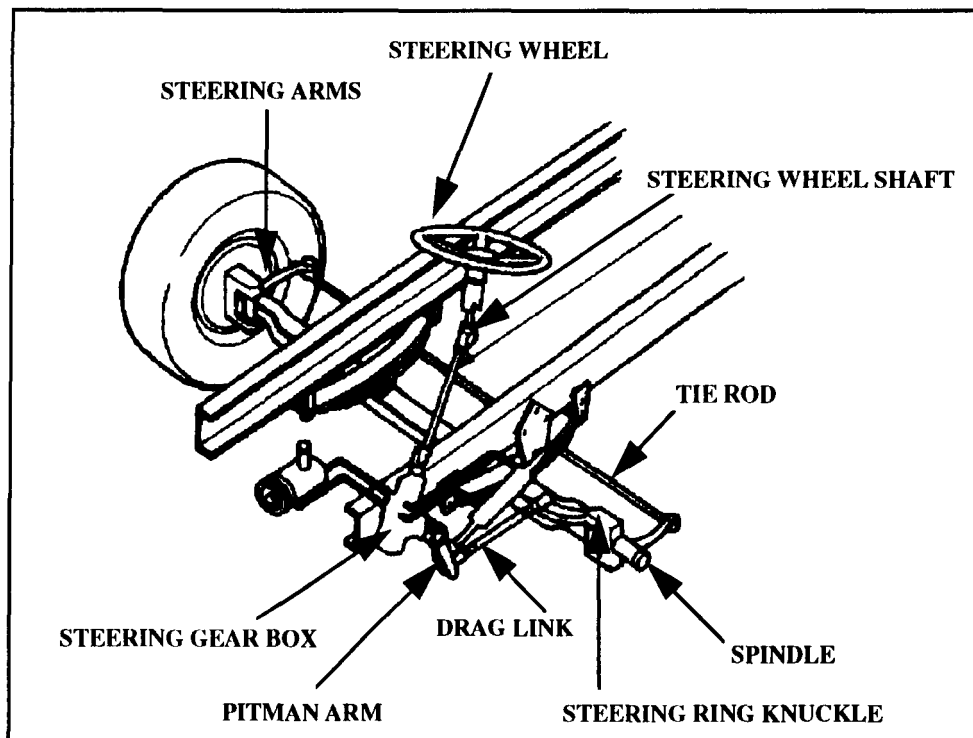

Figure 2-9. Steering system key parts
- (1) Cracked drums.
- (2) Shoes or pads with oil, grease, or brake fluid on them.
- (3) Missing, broken, or dangerously thin shoes.
**d. Steering System Defects.** Figure 2-9, page 2-40, shows the key parts to the steering system. Look for the following:
- (1) Missing nuts, bolts, cotter keys, or other parts.
- (2) Bent, loose, or broken parts, such as the steering column, steering gear box, or tie rods.
- (3) Leaks in hoses and pumps and low fluid levels, if equipped with power steering.
- (4) Steering wheel play of more than 10 degrees (approximately 2 inches of movement at the rim of a 20-inch steering wheel). This can make it hard to steer.